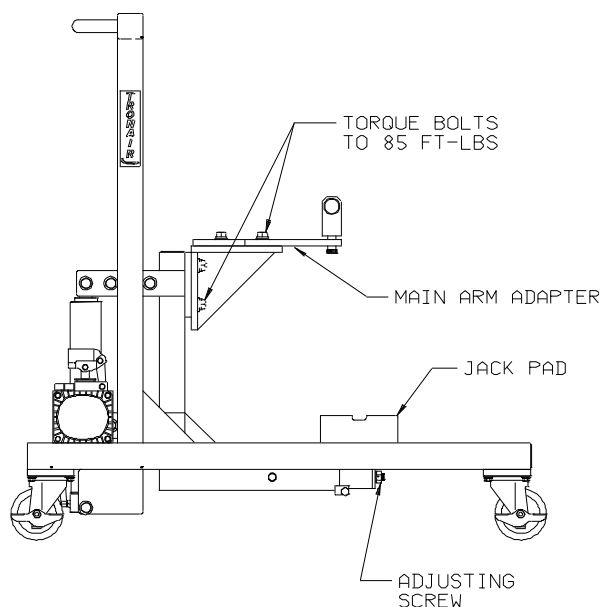

Figure 1
1. Adjust the main arm adapter and jack pad to fit the landing gear. The main arm adapter can be adjusted up and down or in and out by loosening four (4) bolts. Once the main arm adapter is in the desired position, tighten the four (4) bolts to a torque value of 85 ft-lbs. The jack pad can be adjusted in and out by turning the adjusting screw on the lower arm. (See Figure 1)